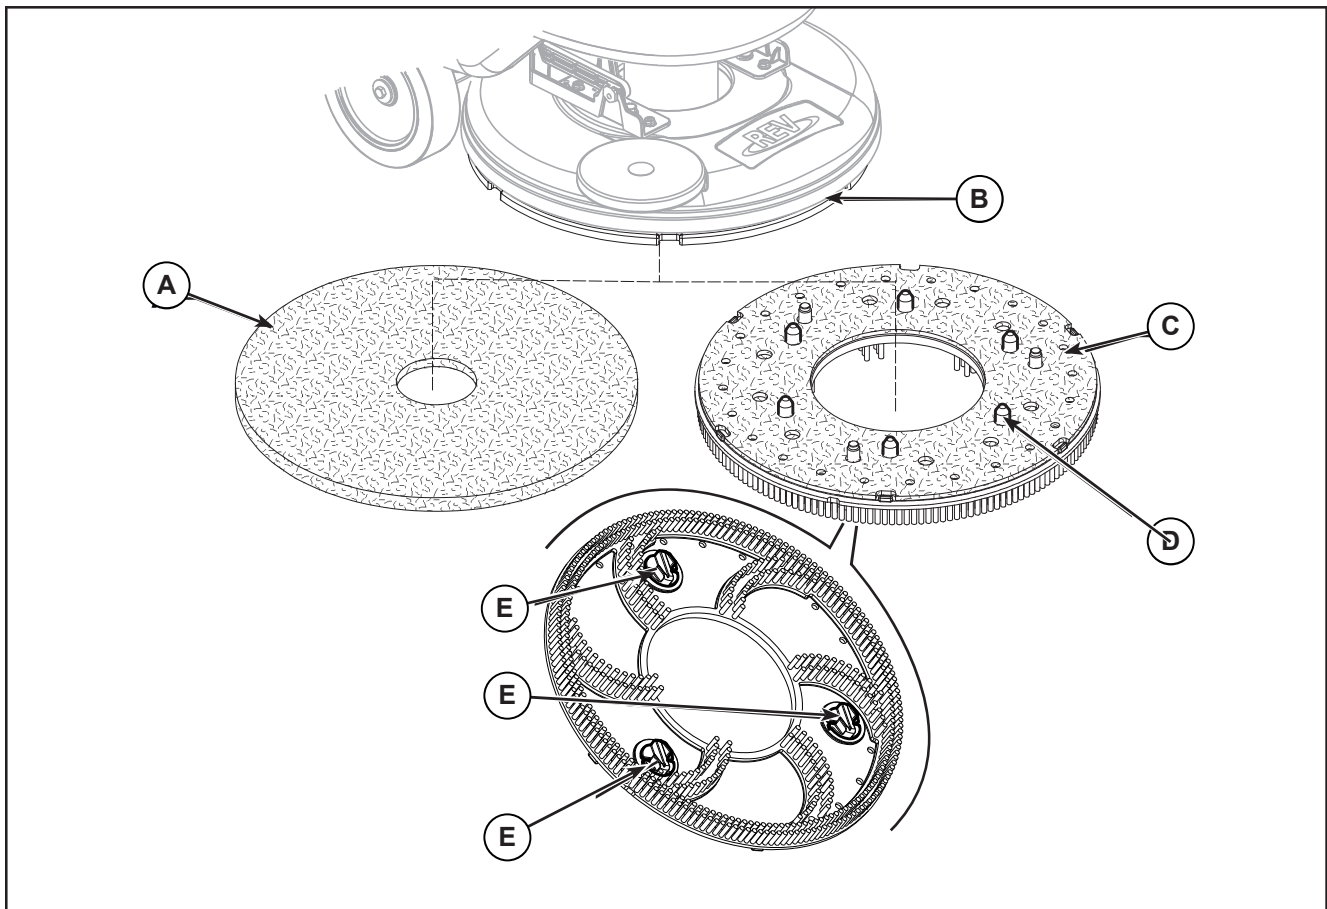

Figure 5:
1. With the REV deck raised, install the pad (A) (Figure 5) or the brush (C), depending on the type of treatment to be performed:
- Place the pad (A) under the deck and press it until it is fastened with the Velcro of the drive disc (B).
- Place the brush (C, optional) under the deck, and then match the centering pins (D) to the respective holes of the drive disc (B), and then engage the brush with the mounting screws (E).